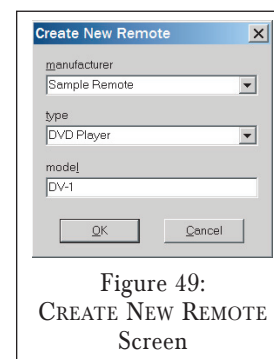

Figure 49:
- a) Open the REMOTE menu and select NEW. The CREATE NEW REMOTE screen (*Figure 49*) will appear.